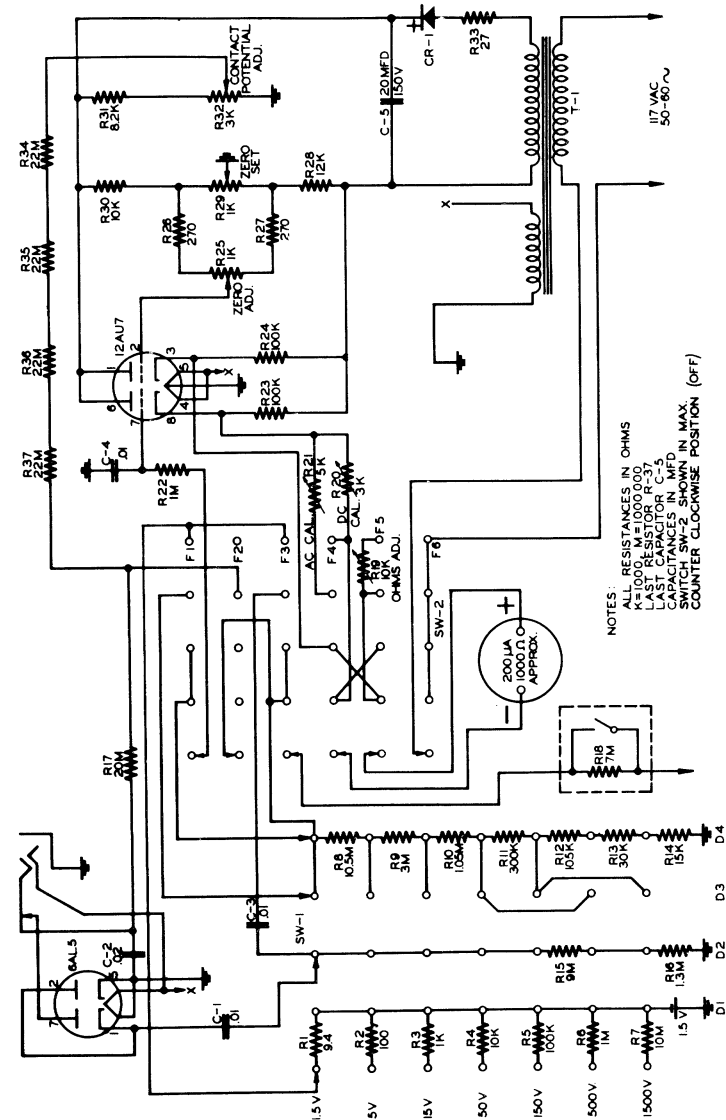

FIGURE 2. SIMPSON VACUUM TUBE VOLTMETER MODEL 311, SCHEMATIC DIAGRAM
2. Turn the ZERO ADJUST knob to the extreme left and note the position of the meter pointer. Return meter pointer to zero. Turn the function switch at +DC and turn the ZERO ADJUST knob to the extreme right. Note the meter pointer position again. The pointer position should be the same for both polarities. If there is any difference between them, adjust potentiometer R29 until the readings are the same. See figure 2, schematic diagram, to help locate potentiometer R29 inside the instrument.
5. Turn the function switch to – DC and set the switch on the probe handle at DC again. Connect the probes to a known value of DC voltage. Check the meter indication. If it is not correct, adjust potentiometer R20 to calibrate the instrument. See figure 2, schematic diagram, to help locate potentiometer R20 inside the instrument.
6. Turn the function switch to AC and set the switch on the probe handle at AC again. Connect the probes to a known value of AC voltage. Check the meter indication. If it is not correct, adjust potentiometer R21 to calibrate the instrument. See figure 2, schematic diagram, to help locate potentiometer R21 inside the instrument.